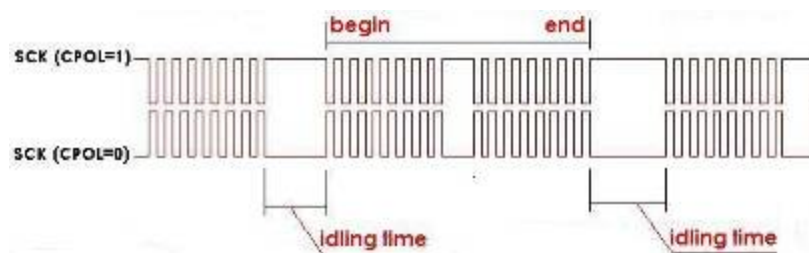

Fig 4-86 – Idling Time
- (4) Type the idling time of the SCK signal on the tested SPI circuit. The idling time is defined as the idling time as shown in Fig 4-86.